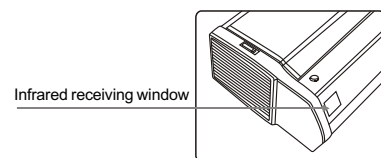

Figure 7
1. Built-in IR control (Figure 7)